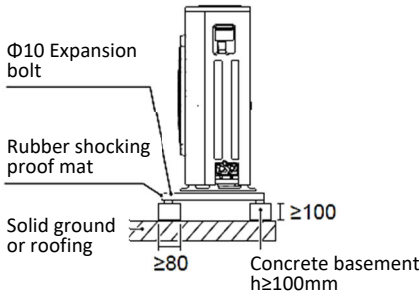

Fig 6-3
- If water does not easily drain from the unit, mount the unit on a foundation of concrete blocks, etc. (the height of the foundation should be about 100 mm .(in Fig:6-3)